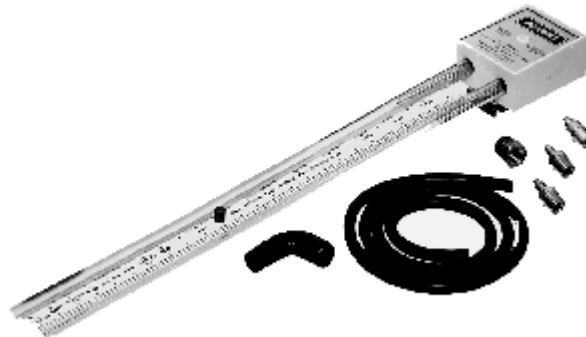

Figure IX-1 Water manometer
w.c. - inches of water column. Unit of measure for delivery pressure from single, second and integral twin stage regulators (27.71"w.c.=1.0 psig). Inches of water column are measured with the use of a U-Tube device called a water manometer (see Figure IX-1) that is filled with water with 1" markings typically up to 16". As pressure is introduced in one side of the tube, the water is forced up the other side; the end reading is then doubled to get the measured delivery pressure.